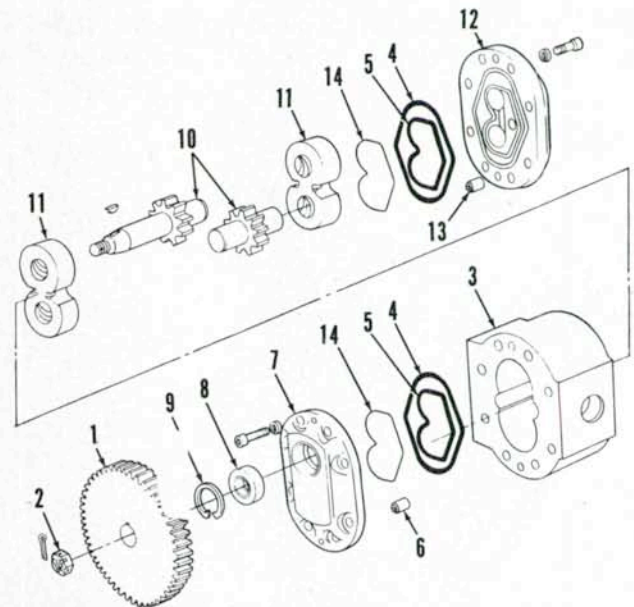

Fig. 316—Exploded view of main hydraulic pump. Seal ring (14) is used on TW-35 pump.
**236. OVERHAUL PUMP.** With pump removed as outlined in paragraph 235, disassemble as follows: Unbolt and remove inlet manifold from pump. Remove pump drive gear retaining nut (2—Fig. 316), then use a suitable puller to remove gear (1) from pump shaft. Remove Woodruff key from shaft. Remove screws retaining front cover (7) and rear cover (12) to pump body. Lightly tap front end of pump drive shaft with a mallet to separate rear cover from pump body, then tap rear end of shafts to remove front cover. Keep components in order as removed. Remove pressure loading rings (5) and seal rings (4) from front and rear covers.